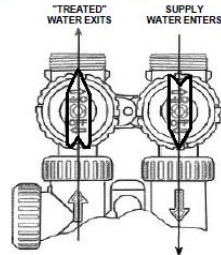

Figure 2 - Service
1. **Normal Operation Position:** The inlet and outlet handles point in the direction of flow indicated by the engraved arrows on the control valve. Water flows through the control valve for normal operation of a water softener or filter. During the regeneration cycle this position provides regeneration water to the unit, while also providing untreated water to the distribution system (**Fig. 2**).
**STEP 14:** Gradually turn the INLET side knob of the bypass valve counter-clockwise not more than ½ way (45 degrees) to the "Service" position (Figure 2, Page 5) allowing the unit to slowly fill with water and purge the air until only a steady stream of water flows to the drain.
**STEP 15:** Once the air is purged, gradually turn the INLET knob of the bypass valve counter-clockwise until it is fully in "Service" position (Figure 2, Page 5). Then turn the OUTLET knob of the bypass valve counter-clockwise until it is fully in the "Service" position (Figure 2, Page 5). and **leave the control valve in "Backwash" position for at least 10 minutes or until water flowing from the drain line runs clear; whichever is longer.**